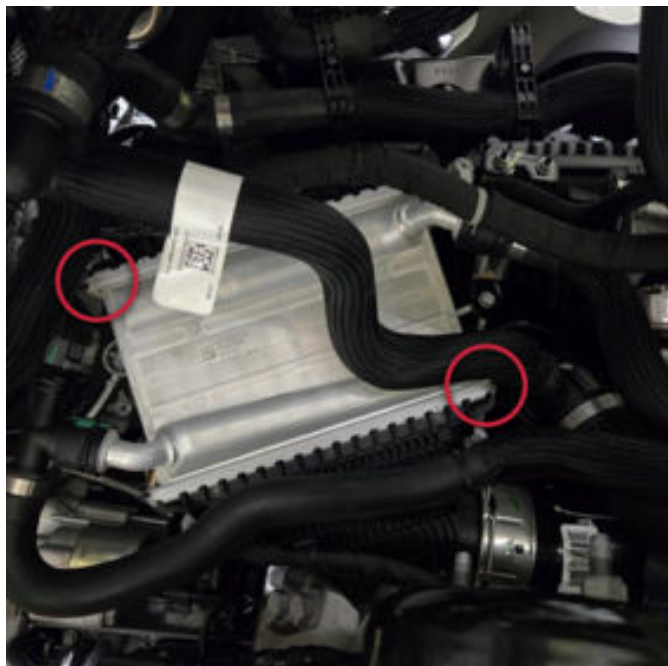

Fig. 1
2. Inspect the crimp on the Charge Air Cooler Case Fig. 1.